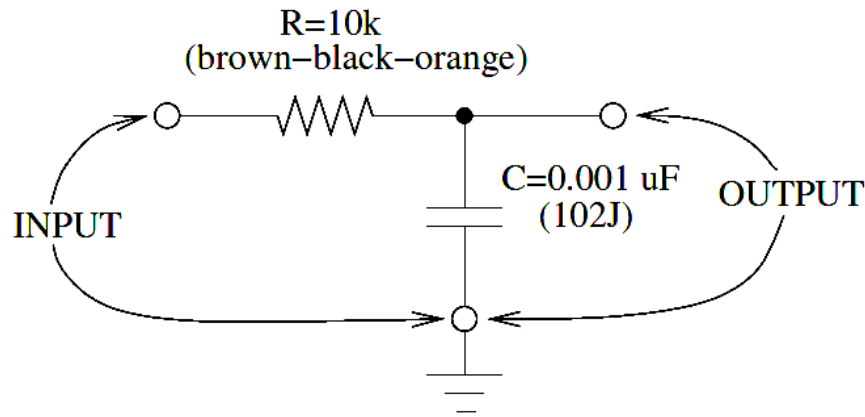

Figure 1: Schematic of the RC circuit used in Exercise 1.
The response of analog circuits may be viewed either in the time domain or frequency domain, and they are complementary. In this exercise you will explore both domains for a simple RC circuit. An RC “low-pass” filter circuit is shown in Fig. 1. The term “low pass” refers to its frequency domain behavior (passes AC signals mostly below some characteristic frequency). By symmetry, in the time domain it is an integrator of the input voltage function $V(t)$, if $V_{out} \ll V_{in}$. Using complex impedances for the components you can show that if the circuit is fed a step input (or low frequency square wave) that the output will show an RC charging curve that
1. Build the RC circuit shown in Fig. 1 using the supplied RC circuit, a BNC-to-clip cable, and a X1 scope probe. *As a check, first use an ohmmeter to measure your resistor – it may not be exactly 10K ohms.*
3. Connect the output of the RC circuit to CH2 of the scope (see Fig. 1) using your X1 probe [black = ground].